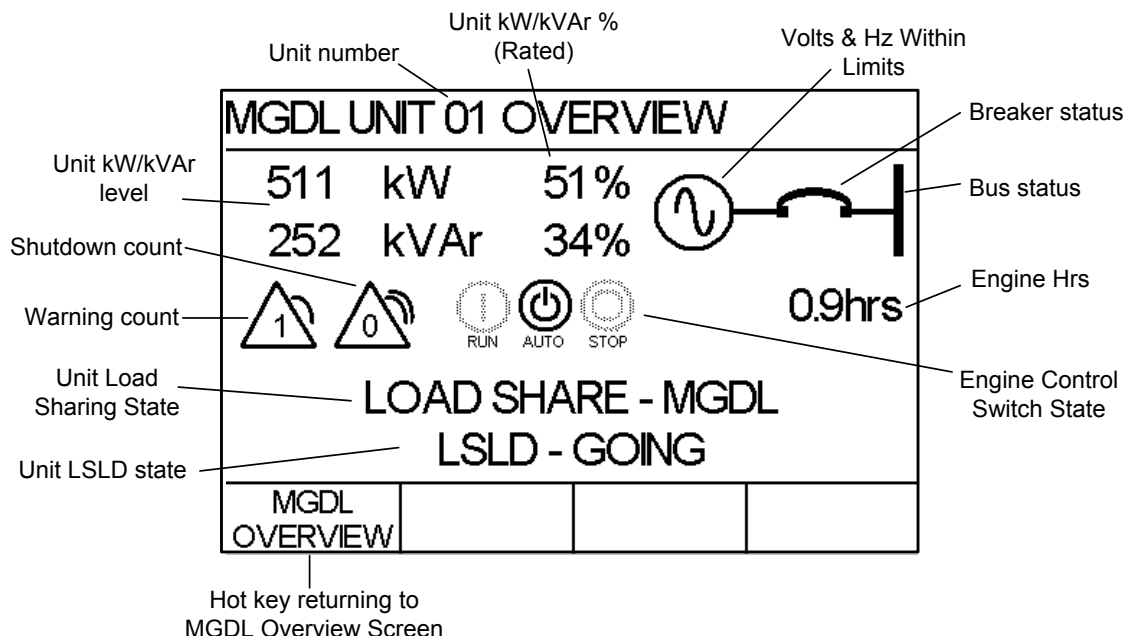
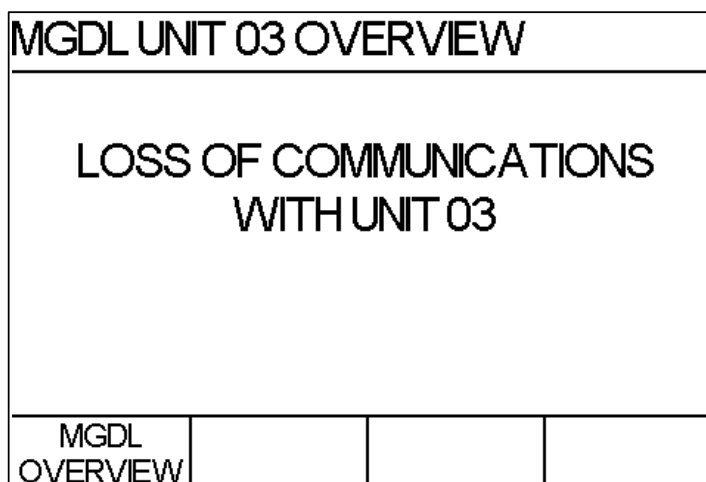

Figure 37.37 – MGDL Unit Details Screen
Figure 37.38 – MGDL Unit Details Screen of Unit with Loss of Communications
- A unit number is replaced with a question mark if communications have been lost with that unit. Scrolling to and selecting the question mark on the MGDL Overview screen displays a message indicating the unit number of the lost unit (Figure 37.38).
Scrolling left and right on the MGDL Overview screen with the left and right arrow keys allows the user to select a particular MGDL unit. Pressing the OK key provides more detailed information (Figure 37.37) on the operation of the selected MGDL unit.
The MGDL Unit Details screen displays detailed information of the selected MGDL unit from a single EMCP 4.4 controller's display. The MGDL Unit Details screen information is described in Figure 37.37 and Figure 37.38.
- If communications are lost with a unit, the unit details are not available and the unit details screen is replaced with a message indicating a loss of communications as shown in Figure 37.38.